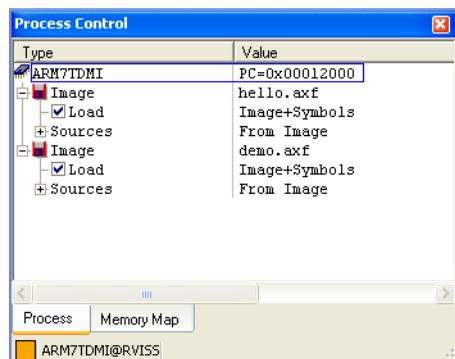

Figure 4-6 Multiple images in the Process Control view
4. Expand the display to see the process details. Figure 4-6 shows an example: